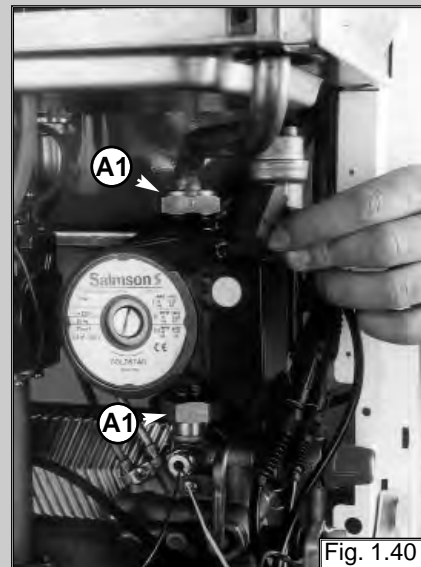

Fig. 1.40
2. Release the nuts "A1" and remove the pump (see fig. 1.40).